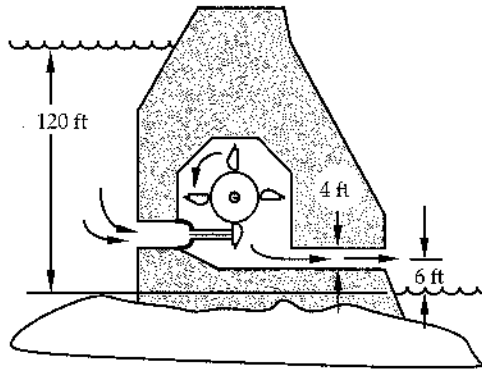

FIGURE P2.39.
39. Figure P2.39 shows a water turbine located in a dam. The volume flow rate through the system is 5000 gpm. The exit pipe diameter is 4 ft. Calculate the work done by (or power received from) the water as it flows through the dam. (Compare to the results of the example problem in this chapter.)